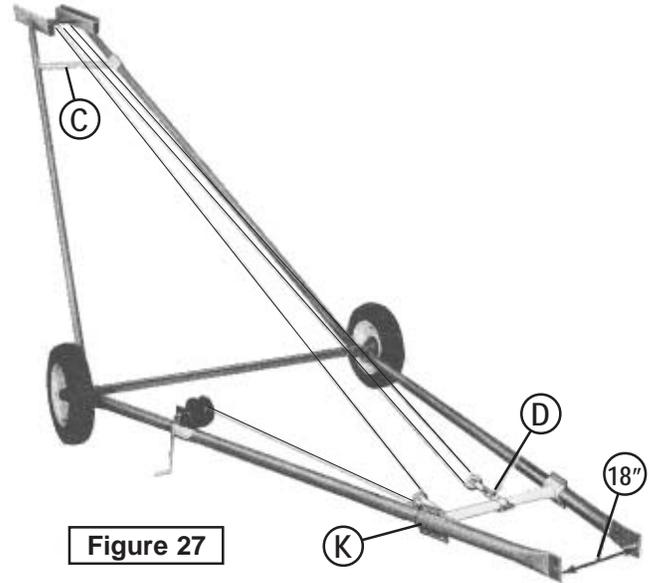

Figure 27
2. Attach Axle Arms, 147-1/2" long (Item "A" Fig. 26) to inside of axle using 1/2" x 1" machine bolts with locknuts. Axle Arm with winch mounting pad goes to left hand side as shown in figure 27. Tighten bolts.
5. Bolt upper and lower braces "C" & "D" (Fig. 27) with brackets on Axle Arms and Lift Arms, using 3/8" x 1-1/4" machine bolts with locknuts. **Do not tighten bolts.**
8. Adjust brace "D" (Fig. 27) to attain an 18" dimension between the Axle Arms, as indicated. Align brace so it is parallel with the axle. Tighten bolts in clamps "K" (both sides). Then recheck the 18" dimension.
2. Position mounting bracket "D" with flat of angle toward head section. Locate bracket 1" from end of tubing. Hole used in sub frame (1 thru 7) must be considered prior to locating mounting bracket. See page ??, Figure 21 for identification of regular boom roller. See page 12, Figure 27, for identification of long boom roller. Use the holes in the mounting bracket "D" (both sides) as a template to drill holes in elevator sides. Attach bracket using 3/8" x 1" grade 5, machine bolts with locknuts, nuts go to outside. Tighten bolts